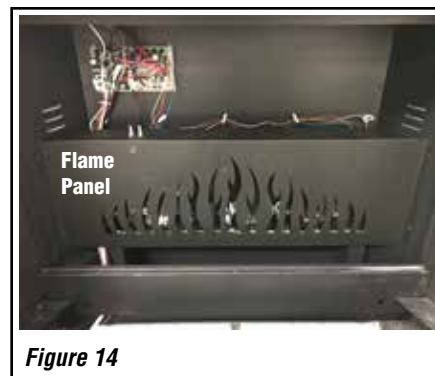

Figure 14
- ii. using a phillips screwdriver, remove the flame panel (see Figure 14).